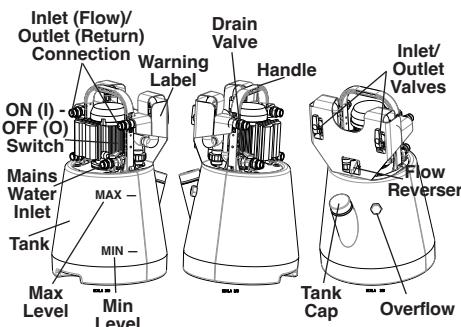

Figure 1 – RIDGID DP-24 Descaling Pump
- Presence and readability of warning label (see *Figure 1*).